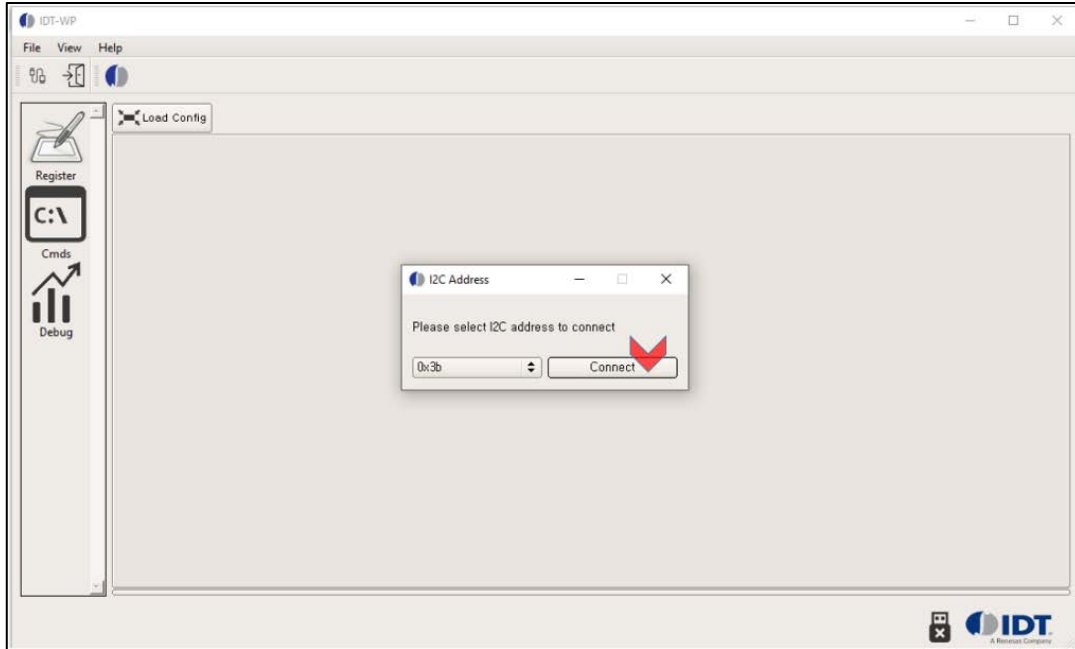

Figure 10. Initial Screen of P9415-R GUI
5. P9415-R default I2C address is 0x3B. Click connect button. If dongle connection is made successfully, P9415 will be displayed in GUI as shown in Figure 10.